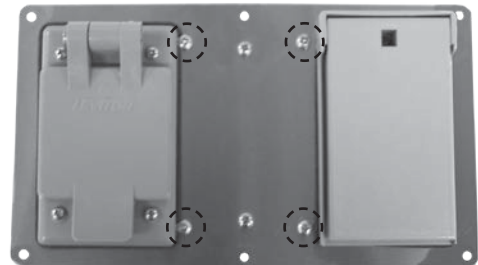

Fig. 37-3 Remove 4 small screws
4. Remove the 4 small screws found on the cover of the power supply box (see Fig. 37-3).